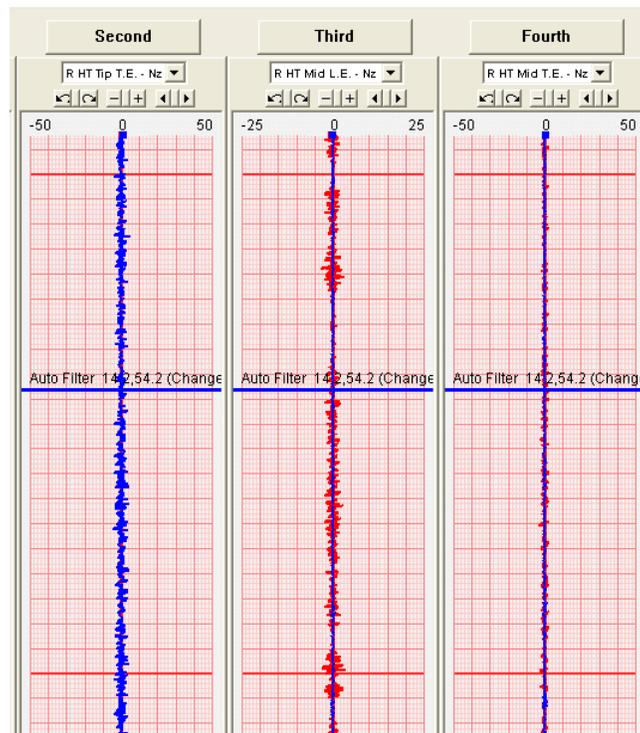

Figure 5-2 Auto Filter Change
- 2) Visual indicators will be automatically added to the Strip charts including for such items as Auto Filter changes (see Figure 5-2), Burst data selection, LogDec overlays, and the computed frequency and damping.